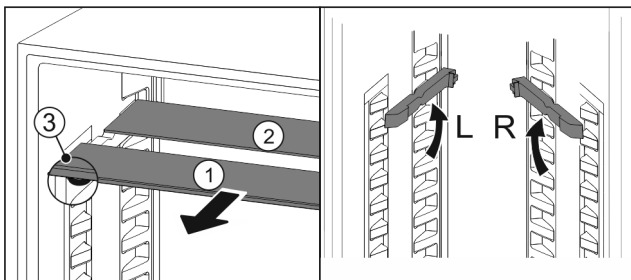

Fig. 189
- ▶ Pull the glass panels out Fig. 189 (1) from the front, one at a time.
- ▶ The glass panel Fig. 189 (1) and trim strip are at the front.
- ▶ The stops Fig. 189 (3) point down.